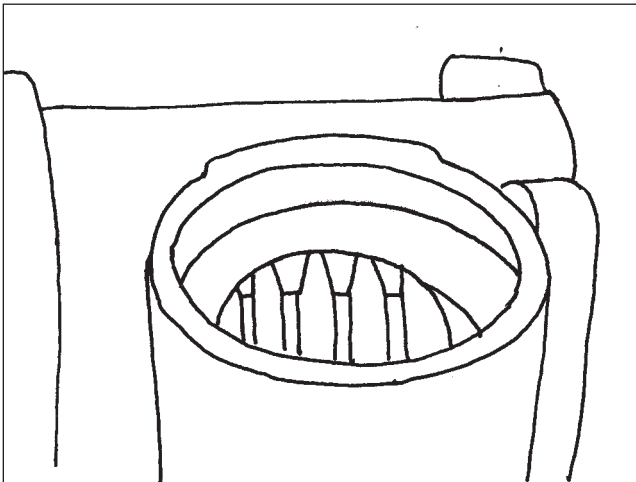

Figure 136
14. Locate the timing mark on the piston rack and center the timing mark in the pinion bore of the housing by turning the actuating shaft. (**Figure 136**).